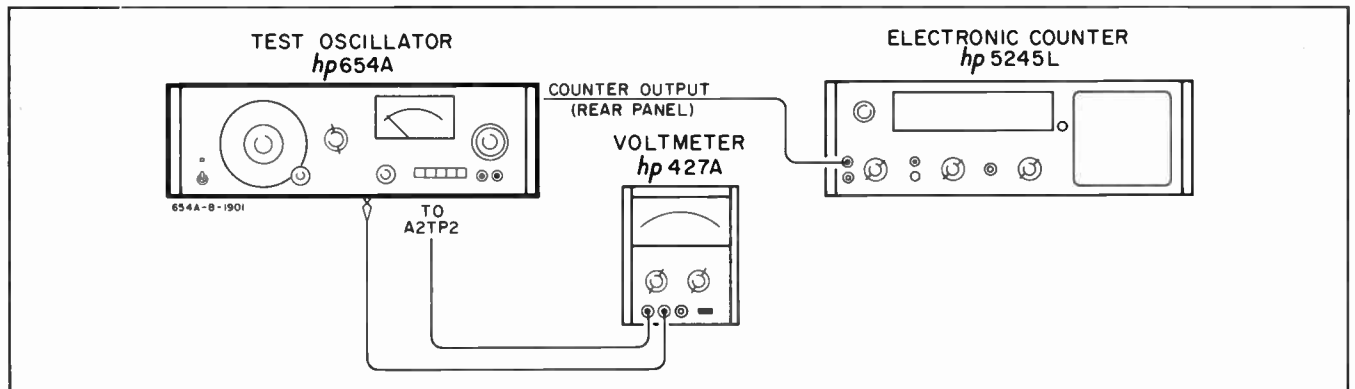

Figure 5-15. Frequency Calibration Test Setup
- a. Connect the equipment shown in Figure 5-15.
- b. Connect equipment as shown in Figure 5-15 and set the 654A controls as in Paragraph 5-50b. Record output frequency.